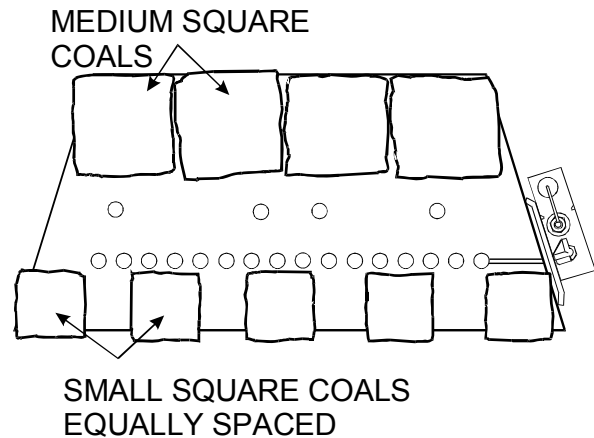

Figure 20
1. Start by placing the first layer of coals (small square and medium square) as shown in **Figure 20** ensuring that no gas ports or the cross lighting slot are obstructed.